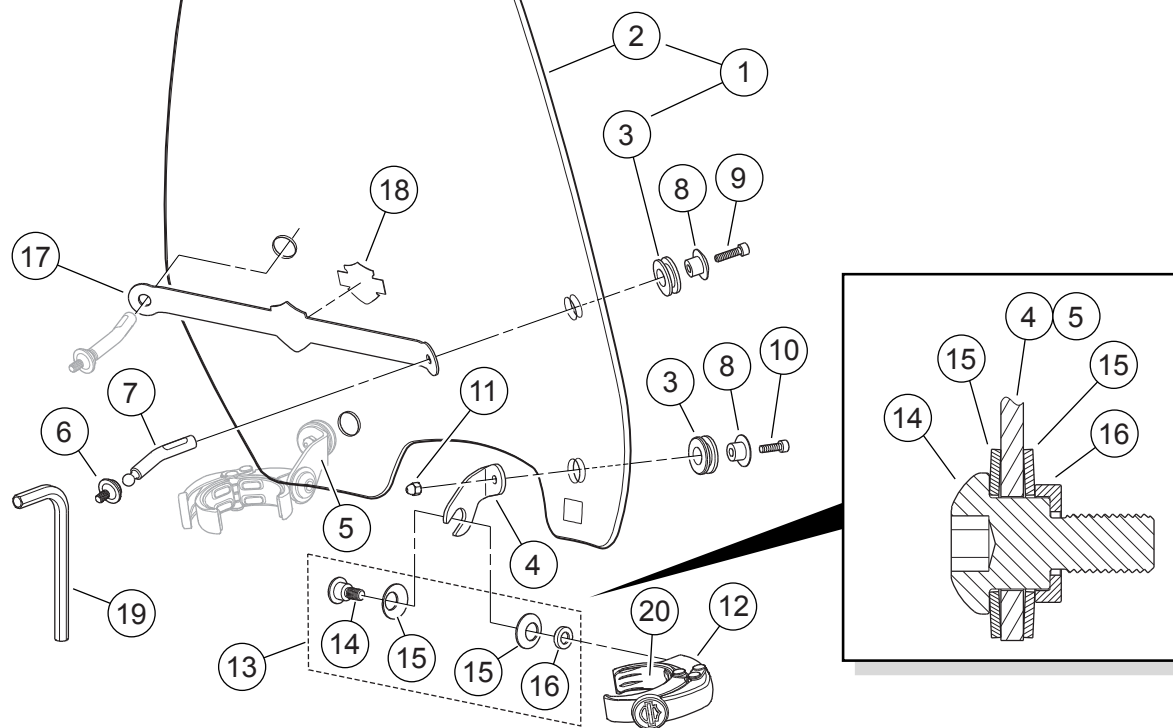

Figure 1. Service Parts, VRSCF Windshield
See Figure 1 and Table 1.
1. See Figure 1. Remove the windshield assembly (1) from the packaging. Place front side down on a clean, soft surface.
2. Get the right (4) and left (5) windshield mounting brackets, two front mounts (8), the two **shorter** socket head cap screws (10) and two acorn nuts (11) from the kit.